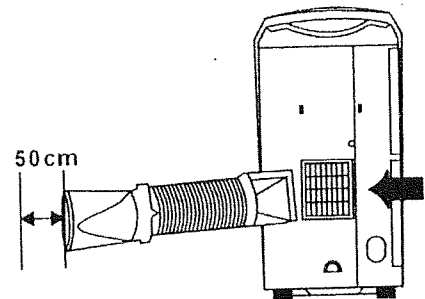

Fig. 6
- 1) Fix the square end of the exhaust duct to the exhaust terminal of the unit. (Fig.6)